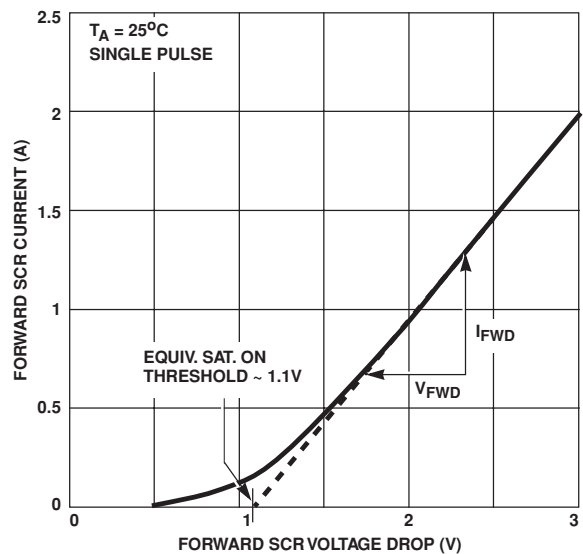

FIGURE 3. HIGH CURRENT SCR FORWARD VOLTAGE DROP CURVE
- Refer to the Figure 3 graph for definitions of equivalent “SCR ON Threshold” and “SCR ON Resistance.” These characteristics are given here for thumb-rule information to determine peak current and dissipation under EOS conditions.